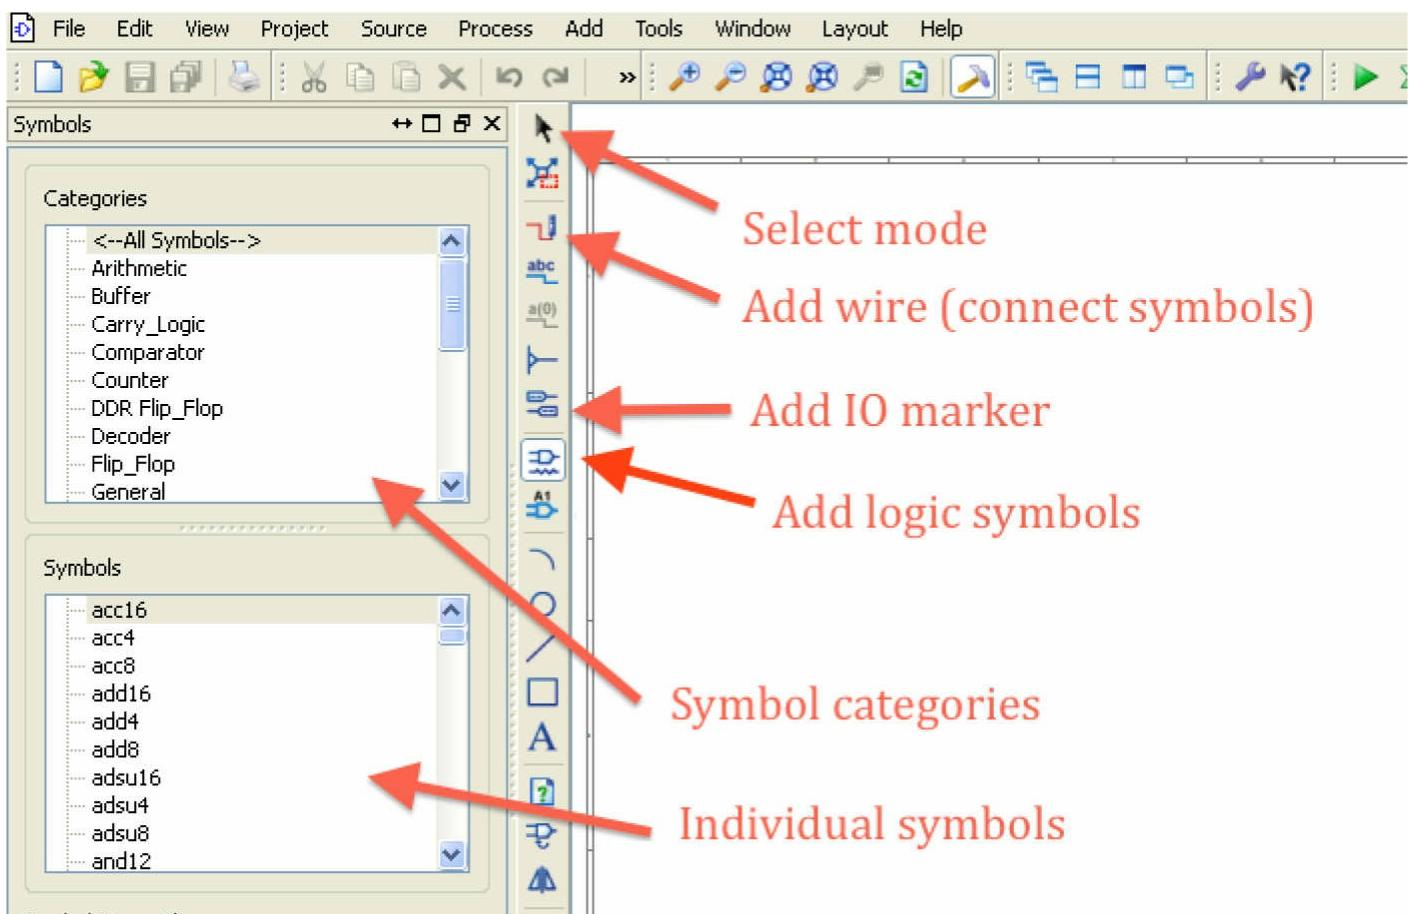

Figure 3-6 The Schematic Editor.
Select Source Type “Schematic,” and enter “data_selector” in the File Name field. Then click on the three dots next to the Location field. To keep things tidy, create a new folder inside the default directory for the project called “src” (source), and then click “Next.” A summary screen will appear, to which you can respond by clicking “Finish.” This will result in a blank canvas being prepared for you in which you can draw the schematic. This is shown in Figure 3-6 with the parts that you are going to need to use labeled.
- Add logic symbols. This is the mode selected in Figure 3-6. The left-hand panel then divides into a top half that shows categories of circuit symbols and a bottom half that has a list of the component symbols in that category.
Put the screen into the Add Logic Symbols mode by clicking on the “Add Symbols” icon (see Figure 3-6). You are going to need to add two two-input AND gates, a two-input OR gate, and two NOT gates (inverters).